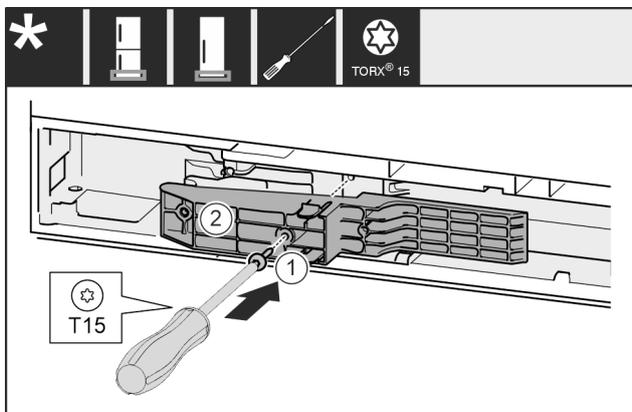

Fig. 67*
- ▶ Insert adapter Fig. 67 (1) in the recess on the handle side.*
- ▶ Tighten screw Fig. 67 (2) with screwdriver.*